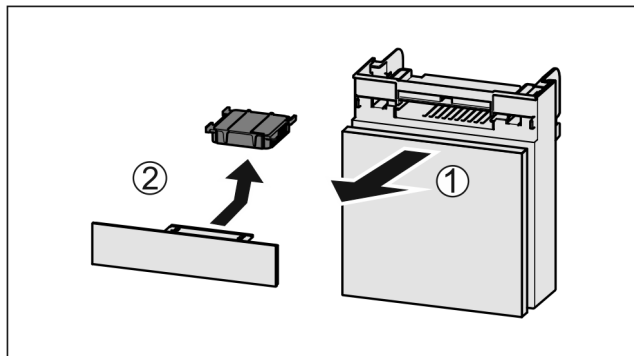

Fig. 178
- Pull out the compartment Fig. 178 (1).
- Remove the carbon filter Fig. 178 (2).